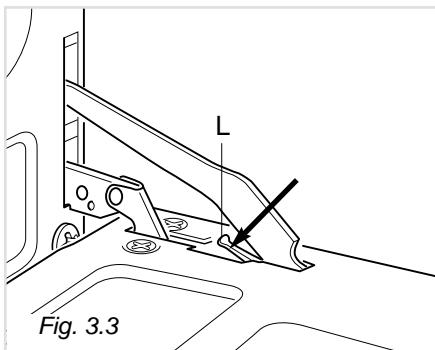

Fig. 3.3
- Push down the lever "L" fig. 3.3 and, keeping it in this position, slowly close the door in order to block the hinge.